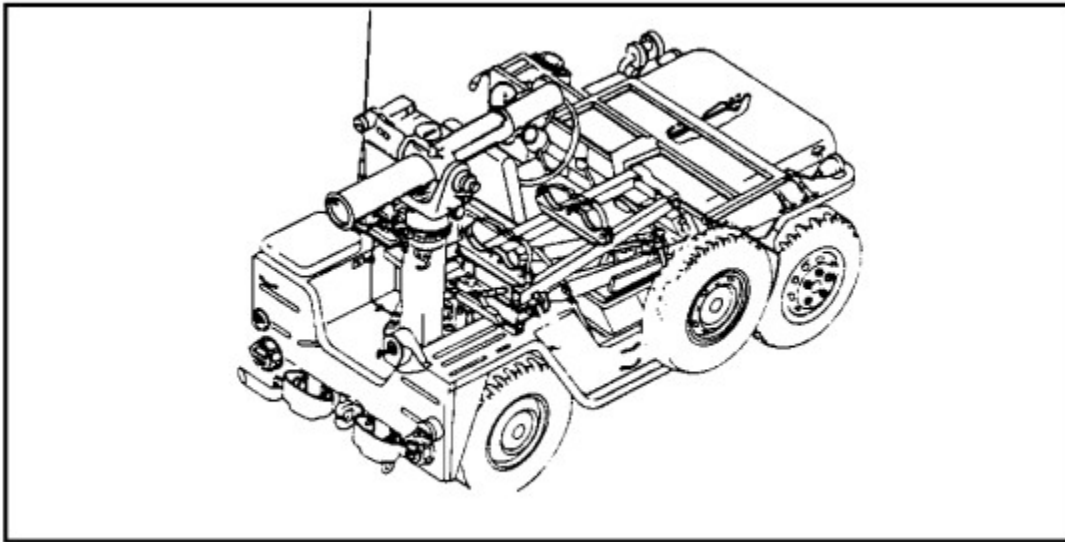

Figure 1-18. M151A2-Mounted TOW (Firing Vehicle).
a. Firing Vehicle. The M232A2 mounting kit equips the M151A2 firing vehicle (shown in Figure 1-18) for mounting and deploying the TOW. On the right side of the vehicle are special racks to carry two encased missiles. The traversing unit, the optical sight, the missile guidance set (MGS), the night sight, and the launch tube are installed in an operational ready state on the launcher mount. In preparation for travel, the launch tube is locked down in the eight-degree down position.